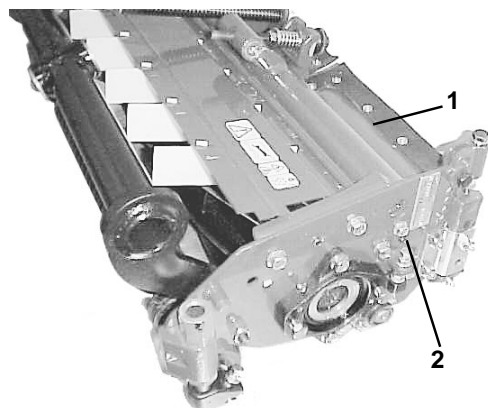

Figure 4
1. To open the rear shield (Fig. 4), loosen the flange head capscrew securing the shield to the left side plate, rotate the shield to the open position and tighten the capscrew.